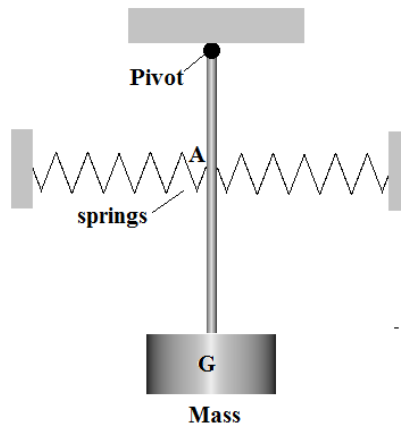

Figure 14
6. A pendulum is shown in fig. 14. It consists of a mass of 5 kg on a weightless rod. The centre of gravity G is 400 mm below the pivot. The radius of gyration about G is 0.05 m. Two light springs are attached to the rod at point A as shown each with stiffness 750 N/m. Point A is 120 mm below the pivot.